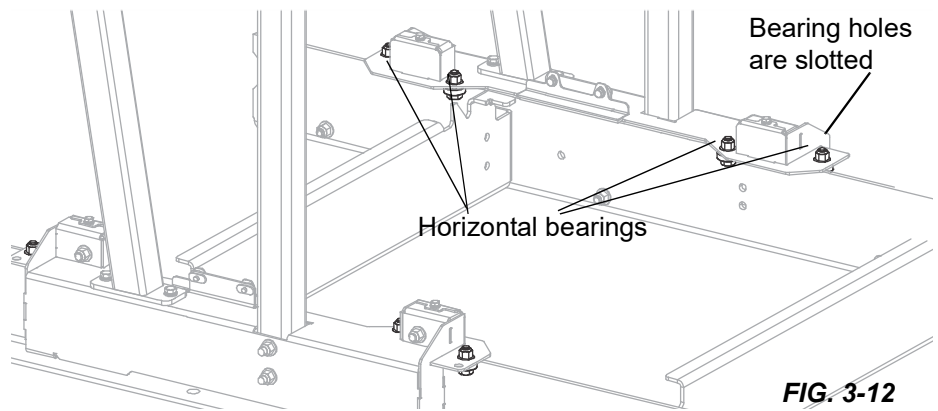

FIG. 3-12
- Align the horizontal bearings. See Fig. 3-12.